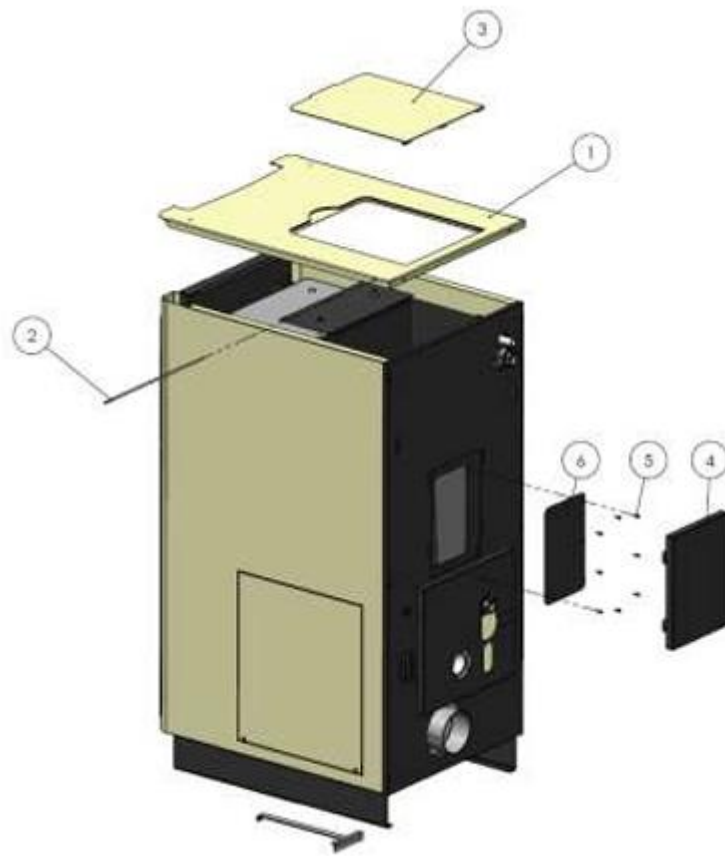

Fig. 1
- place the original pellet hopper cover (6)(Fig. 1) onto the additional hopper and secure it with the screws (5).